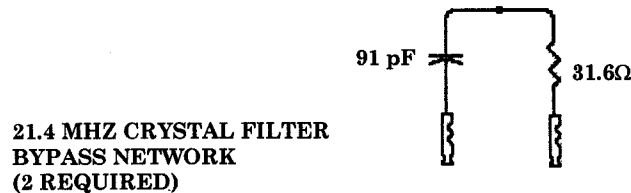
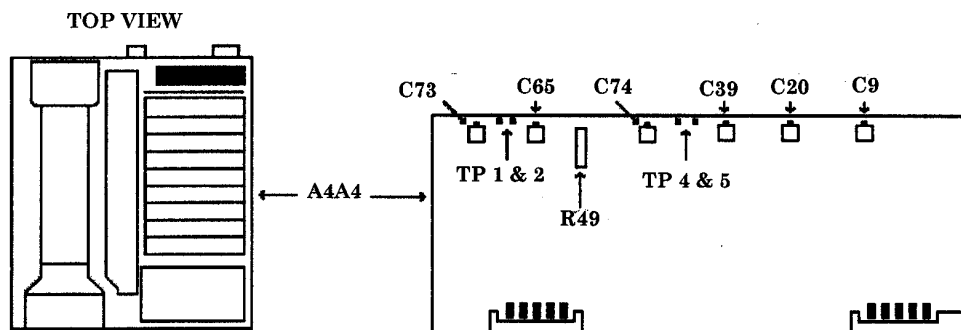
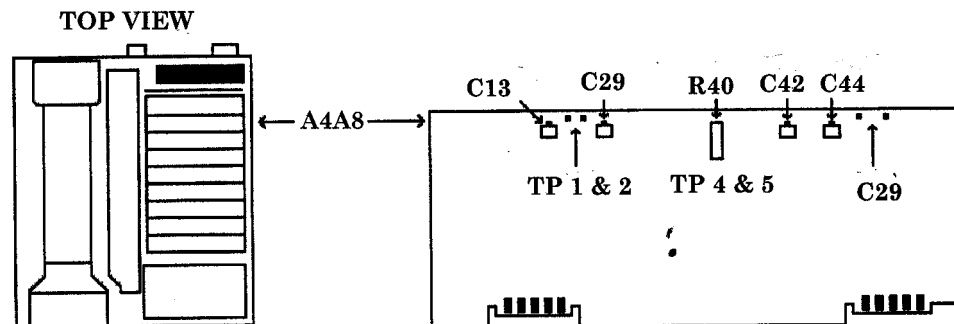

Figure 18. 21.4 MHz filter.
Figure 19. A4A4 test points.
Figure 20. A4A8 board.
The pictured filter (fig. 18) is required to continue with this adjustment routine.
(73) Press TI keys as listed in (a) through (e) below:
(74) Adjust TI **DATA** knob to position trace at (or just below) reference level (top) graticule line.
(75) Connect 21.4 MHZ CRYSTAL FILTER BYPASS NETWORK(S) (fig. 18) between A4A4TP1 and A4A4TP2 and between A4A4TP4 and A4A4TP5 (fig. 19).
(76) Adjust A4A4C20 (fig. 19) to center signal on center vertical graticule line.
(77) Adjust A4A4C9 (fig. 19) for best symmetry of signal.
(78) Remove 21.4 MHZ CRYSTAL FILTER BYPASS NETWORK(S) (fig. 18) from between A4A4TP4 and A4A4TP5 (fig. 19).
(79) Adjust A4A4C74 (fig. 19) to center signal on center vertical graticule line.
(80) Adjust A4A4C39 (fig. 19) for best symmetry of signal.
(81) Remove 21.4 MHZ CRYSTAL FILTER BYPASS NETWORK(S) (fig. 18) from between A4A4TP1 and A4A4TP2 (fig. 19).
(82) Adjust A4A4C73 (fig. 19) to center signal on center vertical graticule line.
(83) Adjust A4A4C65 (fig. 19) for best symmetry of signal.
(84) Press TI keys as listed in (a) through (c) below:
(85) Adjust A4A4R49 (fig. 19) to align markers on TI display. **MKR Δ** level should indicate 1.00X.
(97) Press TI keys as listed in (a) through (c) below:
(98) Connect 21.4 MHz CRYSTAL FILTER BYPASS NETWORK(S) (fig. 18) between A4A8TP1 and A4A8TP2 (fig. 20).
(99) Adjust A4A8C44 (fig. 20) to center signal on center vertical graticule line.
- (100) Adjust A4A8C42 (fig. 20) for best symmetry of signal.
- (101) Remove 21.4 MHZ CRYSTAL FILTER BYPASS NETWORK(S) (fig. 18) from between A4A8TP1 and A4A8TP2 (fig. 20).
- (102) Connect 21.4 MHZ CRYSTAL FILTER BYPASS NETWORK(S) (fig. 18) between A4A8TP4 and A4A8TP5 (fig. 20).
- (103) Adjust A4A8C29 (fig. 20) to center signal on center vertical graticule line.
- (104) Adjust A4A8C13 (fig. 20) for best symmetry of signal.
- (105) Remove 21.4 MHZ CRYSTAL FILTER BYPASS NETWORK(S) (fig. 18) from between A4A8TP4 and A4A8TP5 (fig. 20).
- (106) Press TI keys as listed in (a) through (c) below:
- (107) Adjust A4A8R40 (fig. 20) to align markers on display. **MKR LVL** should indicate 1.00X.
- (108) Press TI **2-22 GHz** key.
- (109) Set attenuators for 25 dB.
- (110) Press TI keys as listed in (a) through (h) below: